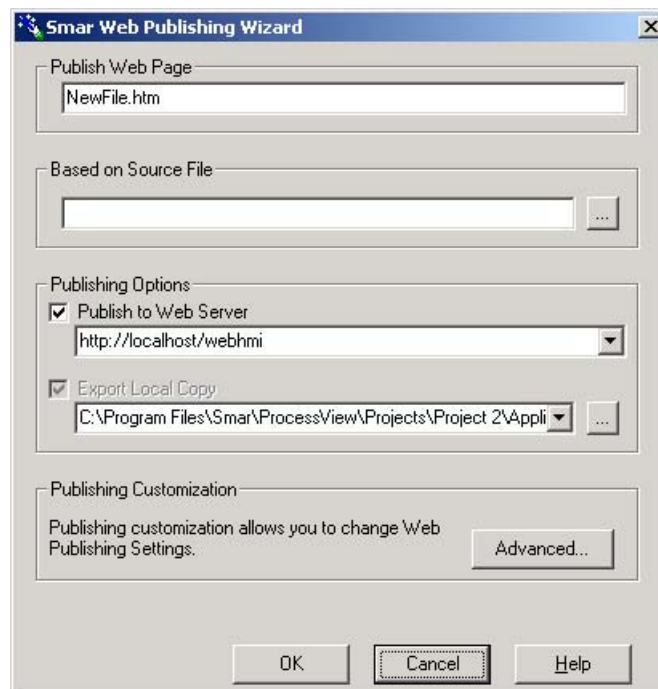

Figure 4.35. Exporting a Display File Locally in ProjectWorX
2. This launches the Web Publishing Wizard, as shown in Figure 4.35. In the **Based on Source File** field of the Web Publishing Wizard, you must specify the name of the GraphWorX display (.gdf) file to be exported, as shown in Figure 4.35. To choose a display, click the ... button to the right to browse for a file. Select a file and then click **Open**. The directory path and the file name are shown in the text field.